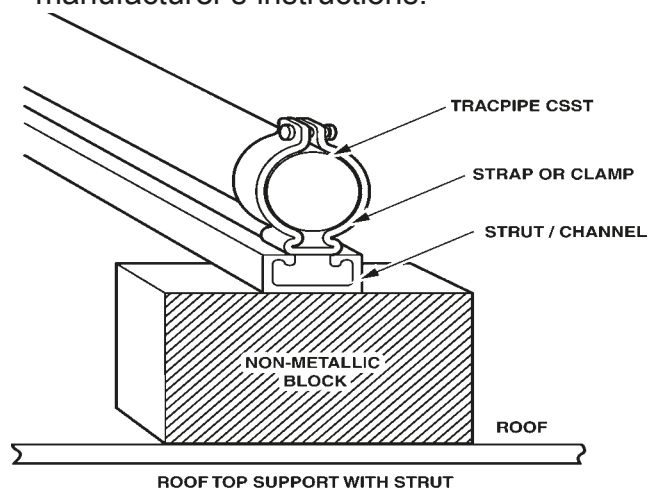

Figure 4-18
3. **TracPipe**® may be supported with strut/channel running from block to block beneath the flexible gas pipe. Galvanized shallow channel (13/16 inch) with splice plates at joints and bends provides a secure, damage resistant "track". With metallic strut support, blocks can be reduced to every 8 feet. The **TracPipe**® should be firmly attached to each block with metallic clamps designed for the strut or appropriate fastening mechanism. (See Figure: 4-18). Black cable ties (UV resistant) at intermediate points facilitate rolling out the **TracPipe**®. The blocks are to be attached to the roof surface in accordance with the roofing manufacturer's instructions.